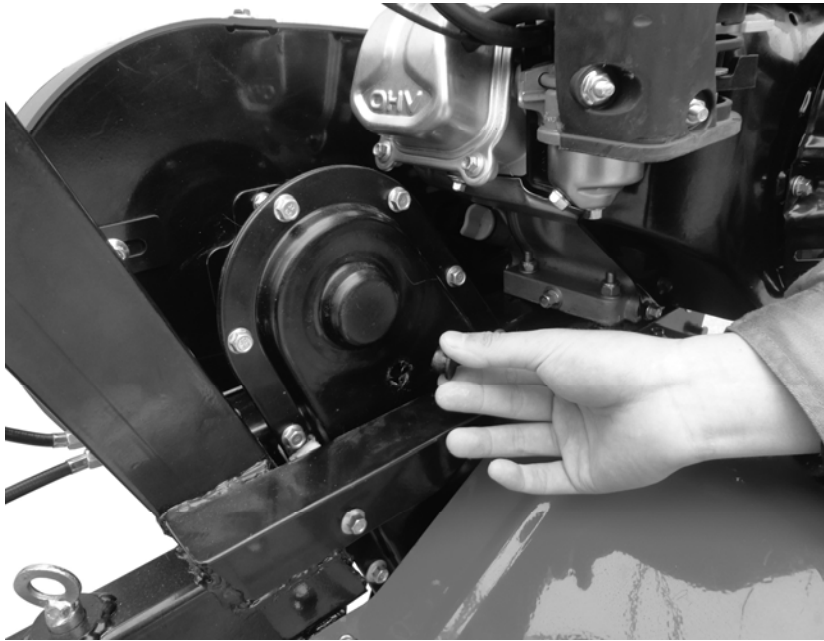

Figure 4
- Put the tiller on a horizontal ground and screw out the plug (See Fig.4)